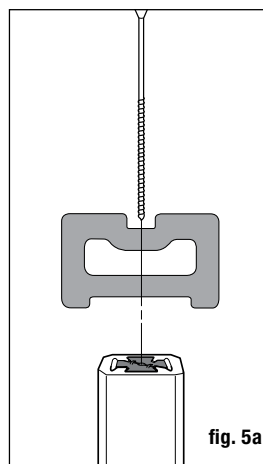
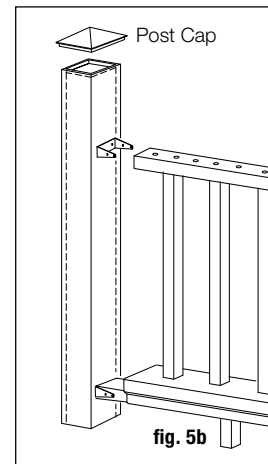

fig. 5a
fig. 5b
Step 11 Connectors come pre-inserted in the CXT balusters. Set the balusters between the trimmed lower rail and the remaining inner rail and fasten in place by driving the 2-1/4" screws included with the baluster kit through the rails into the baluster connectors (fig. 5a). Set the baluster and rail assembly on the installed lower inner rail, placing the upper inner rail between the installed upper brackets (fig. 5b).